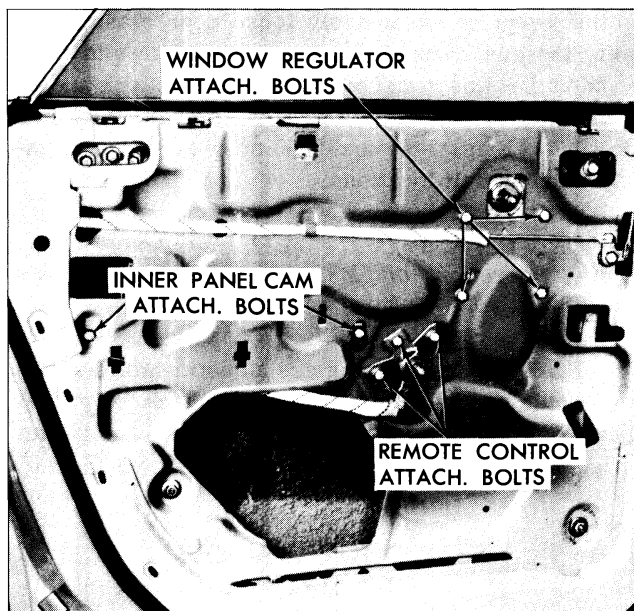
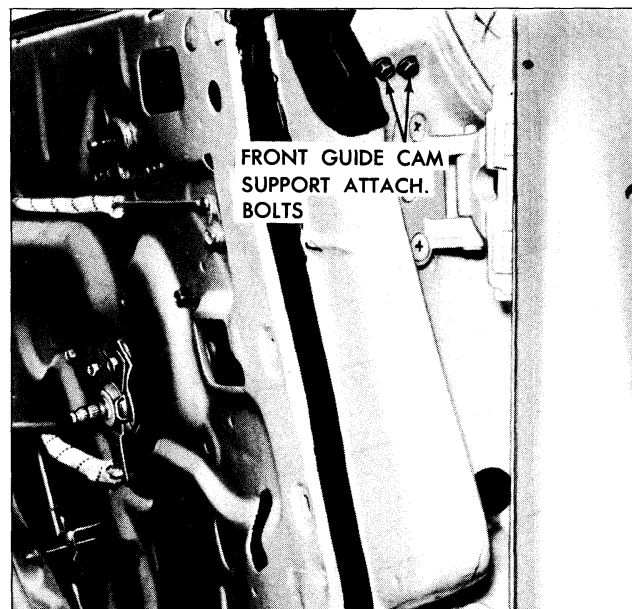

Fig. 3-51 Regulator and Remote Control Attachment
Fig. 3-56 Guide Cam Support Attachment
5. Remove four regulator attaching bolts, disengage balance arm from inner panel cam and remove regulator through large access hole (Fig. 3-51).
(1) With window in the full-up position, loosen front guide cam lower adjusting stud nut (Fig. 3-51).
(2) Loosen front female wedge plate upper attaching bolt.
(3) Loosen two front guide cam support attaching bolts located on door hinge pillar facing (Fig. 3-56).
(4) Position front edge of window in or out as required and tighten front guide cam upper attaching bolts.
(5) Adjust female wedge plate in or out for proper relation to male wedge plate and tighten attaching bolts.
(6) Turn lower front guide cam adjusting stud in or out as needed and tighten adjusting stud nut.
(7) Check window for proper alignment and operation and seal front guide cam lower adjusting stud and nut with body caulking compound.
3. At door hinge pillar facing, remove two bolts securing guide cam support and remove support through inner panel access hole (Fig. 3-56).